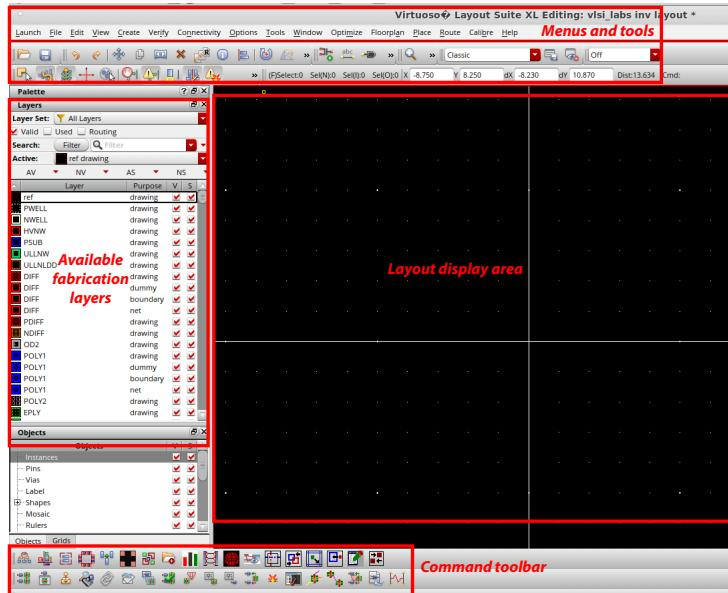

Figure 2: Layout XL window.
2. The Virtuoso® Layout XL Editor window will appear. All available fabrication layers are listed in the layer sub-window on the left (Fig 2). From here, you can select which current layers are visible (V) or selectable (S). You can also choose to only display the layers currently in use in your current layout but selecting *Used*. Many useful commands can be found in the command toolbar below the layout display area. Most of the shortcuts to save, delete an instance, rotate a component, etc. are located in the menus and tools area. As you saw in class, integrated circuits are manufactured through a lot of process steps and are composed by a large number of planar layers, stacked on top of each others. The layout is composed of the geometric shapes of each layers that corresponds to the actual pattern of those materials in your integrated circuit. Based on the layers you choose for your layout, precise masks will be generated during fabrication. This is why for a given layer (e.g. metal 1), several purpose layers are available (dummy, blockage, drawing).